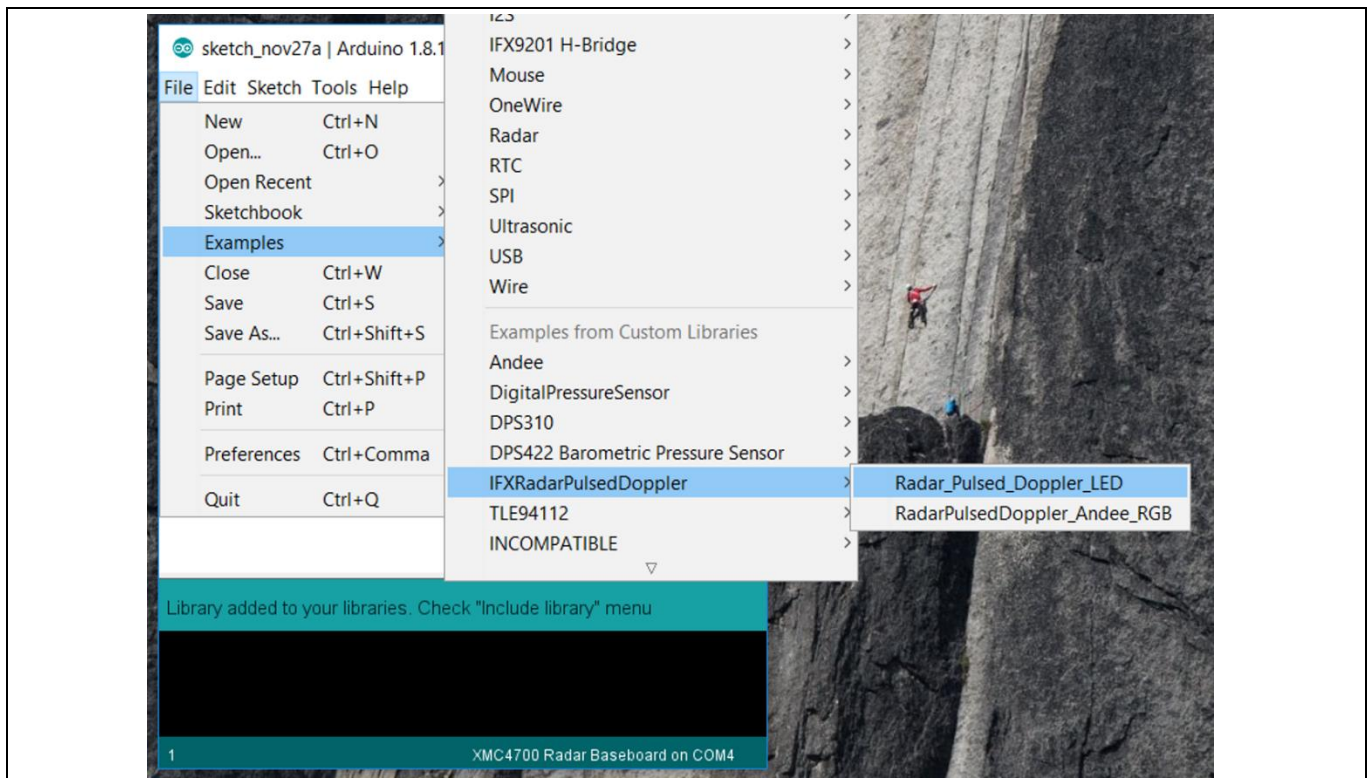
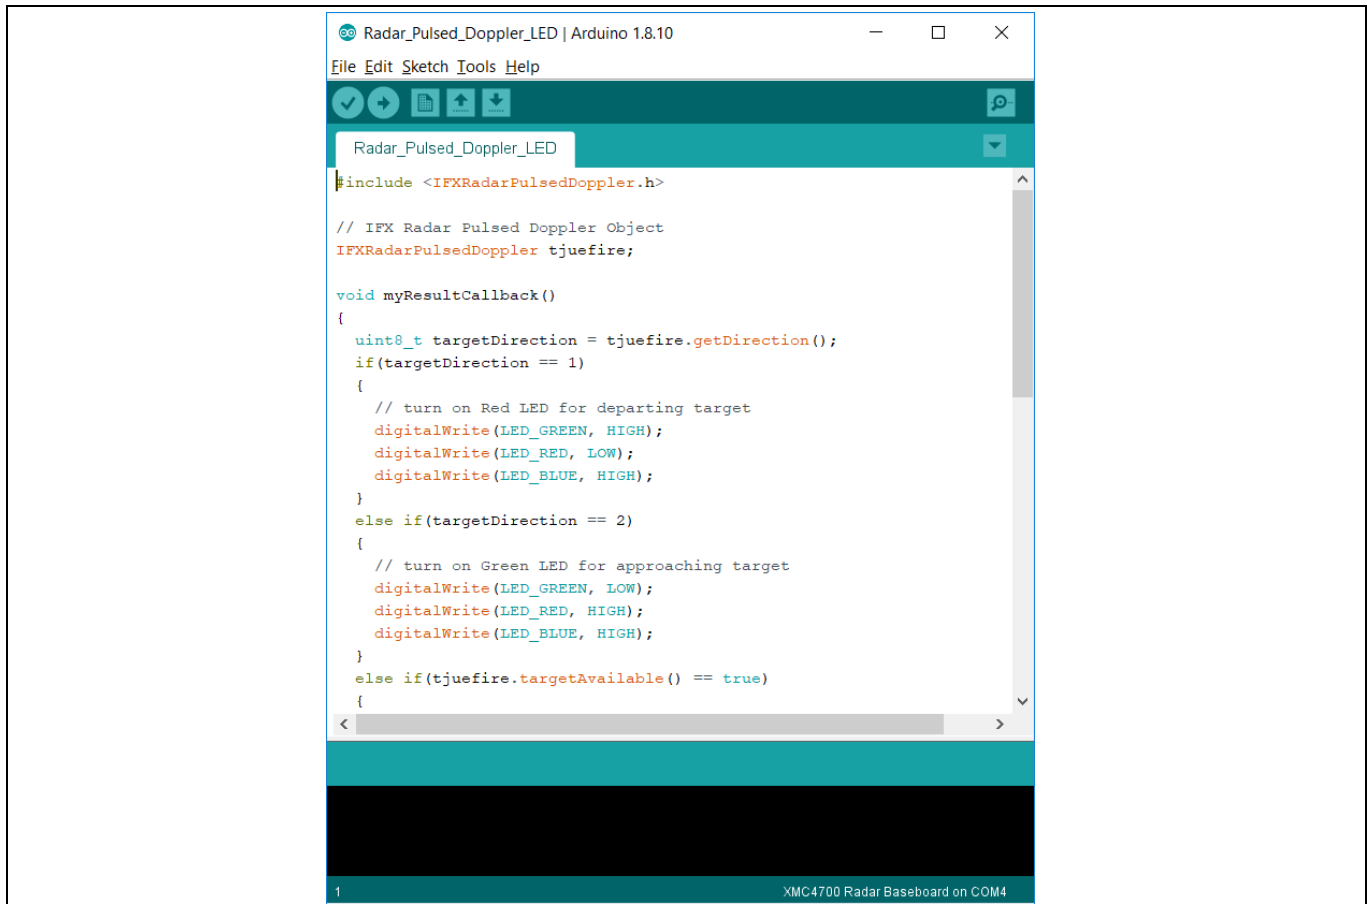

Figure 16 Accessing example sketches from this library
Figure 17 Example sketch: Radar_Pulsed_Doppler_LED
Two Arduino sketch examples are provided in the current library release. These examples can be accessed from *File > Examples > IFXRadarPulsedDoppler* (Figure 16). Table 4 provides a brief description of these examples.
1. In Arduino IDE, navigate to *File > Examples > IFXRadarPulsedDoppler > Radar_Pulsed_Doppler_LED* (as shown previously in Figure 16). The sketch will open (Figure 17).